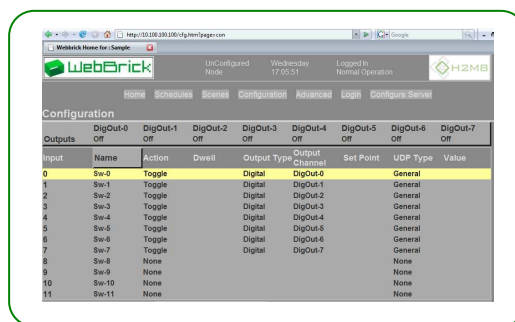

Figure 3: Configuration Page
3. Pressing the login button will automatically redirect you to the configurations page. On this page click on the first line, which corresponds to digital input 0 (see figure 3).
4. This will open the configuration page for digital input 0. On this page you can alter the action provoked when the pushbutton connected to digital input 0 is pressed. To increase the voltage level of analogue output 0 and hence the brightness of the mains light connected to the dimmer the following changes have to be made. The action has to be changed from “Toggle” to “Up”, the output type has to be changed from “Digital” to “Analogue” and finally the output channel has to be set to “An Out-0”. See also figure 3 for these settings.
5. If pressing the button Sw-0 still does not result in a change of the analogue output 0, then please check the settings of digital input 0 on the configuration page (see figure 3) as this is likely to be the source of failure.